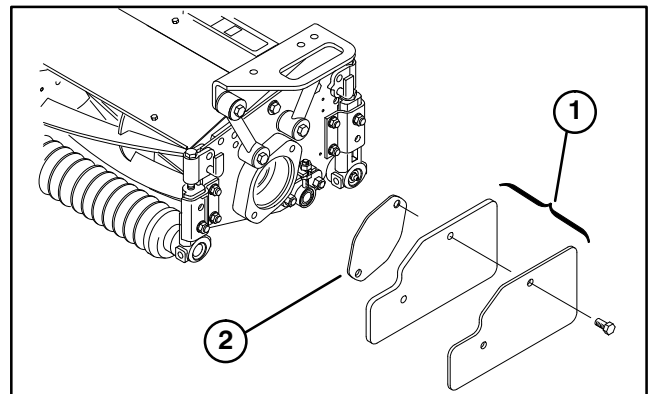
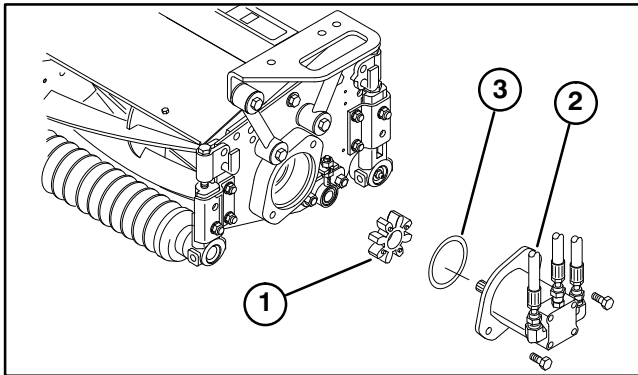

Figure 21
Figure 22
MOUNT CUTTING UNIT DRIVE MOTORS (Fig. 21 & 22)
2. Remove weights and gasket (Fig. 21) from inside end of right hand cutting unit. Remove plug from bearing housing on outside end of right hand cutting unit and install weights and gasket. Locate spider coupling (Fig. 22) shipped in bearing housing.